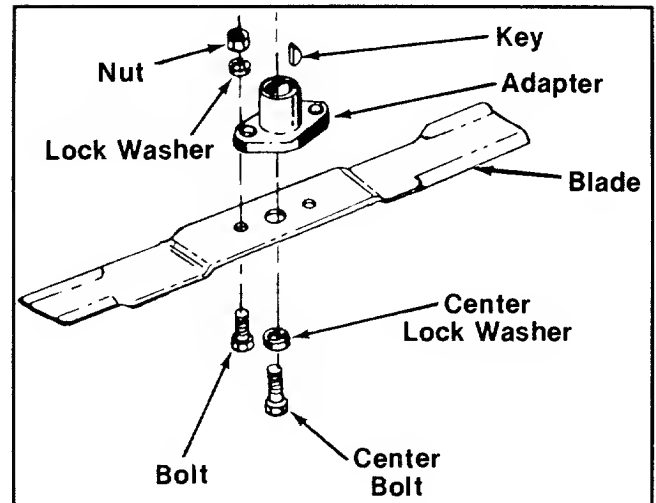

FIGURE 25.
1. Remove the large bolt and lock washer which holds the blade and adapter to the engine crankshaft. See figure 25.